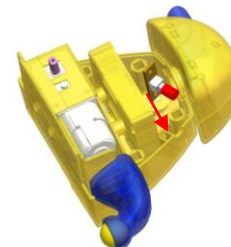

Fig. 9
8. Attach the switch (7) to the back of the main body. (Fig. 9)